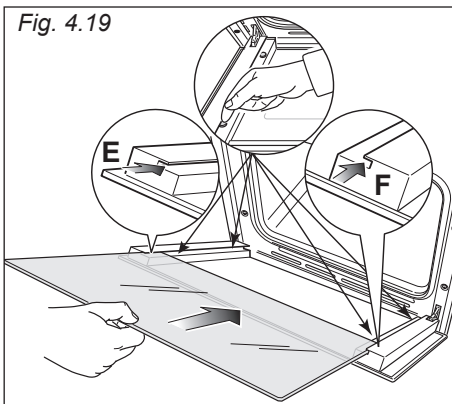
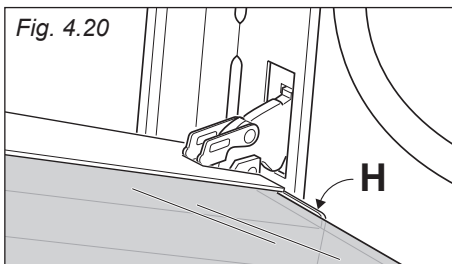

Fig. 4.19
Fig. 4.20
- IMPORTANT:** It is advisable, while refitting the glass, to keep pressed in position the four rubber pads “D”, by a finger, to avoid breakage or slippage of the rubber pads themselves (fig. 4.19).
- Insert the pane in the left “E” and right “F” slide guides (fig. 4.19), and gently slide it to the retainers “H” (fig. 4.20).